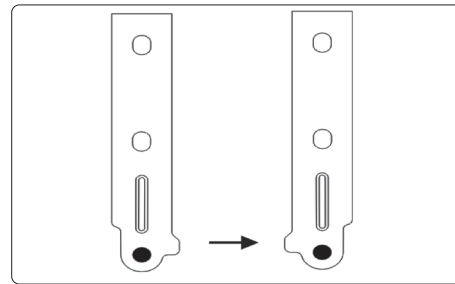

fig.5
- 6. Turn the lower hinge by 180° (fig.5).